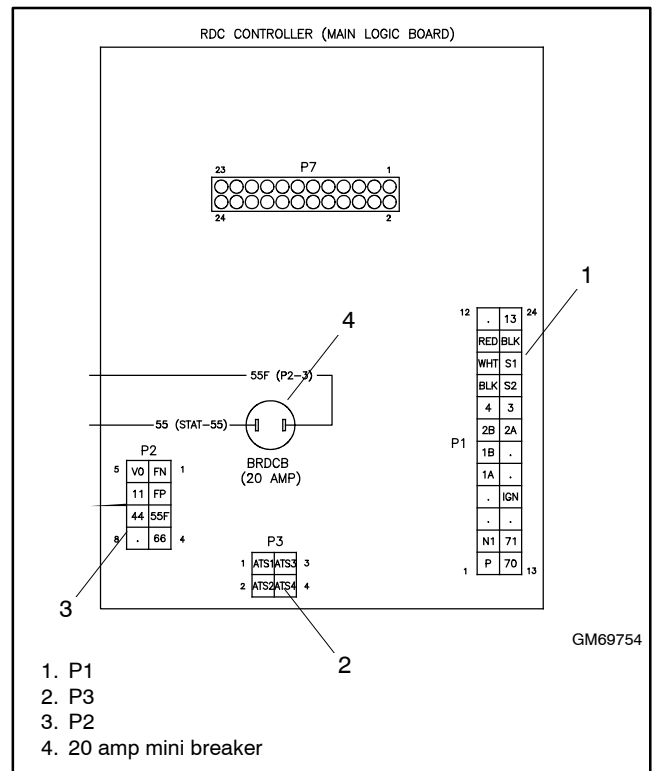

Figure 4-18 Controller Connections
9. Note the connections on the back of the controller, and then disconnect P1, P2, P3, and leads 55 and 55F at the miniature circuit breaker. See Figure 4-18 or the wiring diagram.
12. Mount the new controller assembly onto the junction box using the four (4) screws removed in step 8.